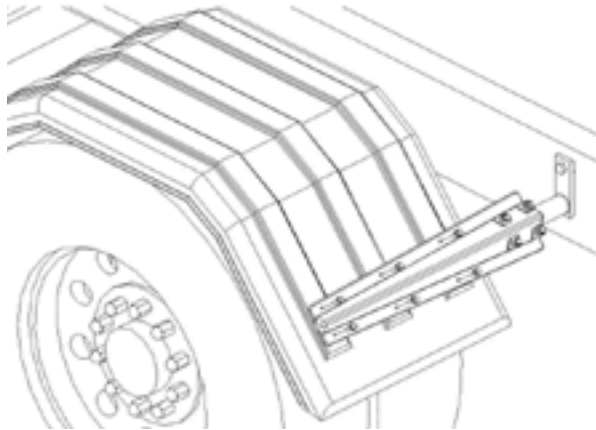

Figure 9
- A. Drill six 5/16" holes thru fender using the holes in bracket PB501026A as a guide. Install the 5/16" x 1" bolts thru the bracket and into the fender. Use six 5/16" body washers and 5/16" nuts provided with kit on the inside of fender. Do not over tighten bolts as it may crack the bracket. Hand tightening of bolts is suggested. Make sure the fenders are square and aligned. Twists or bows in the fender will fatigue the material over time. See figure 9.